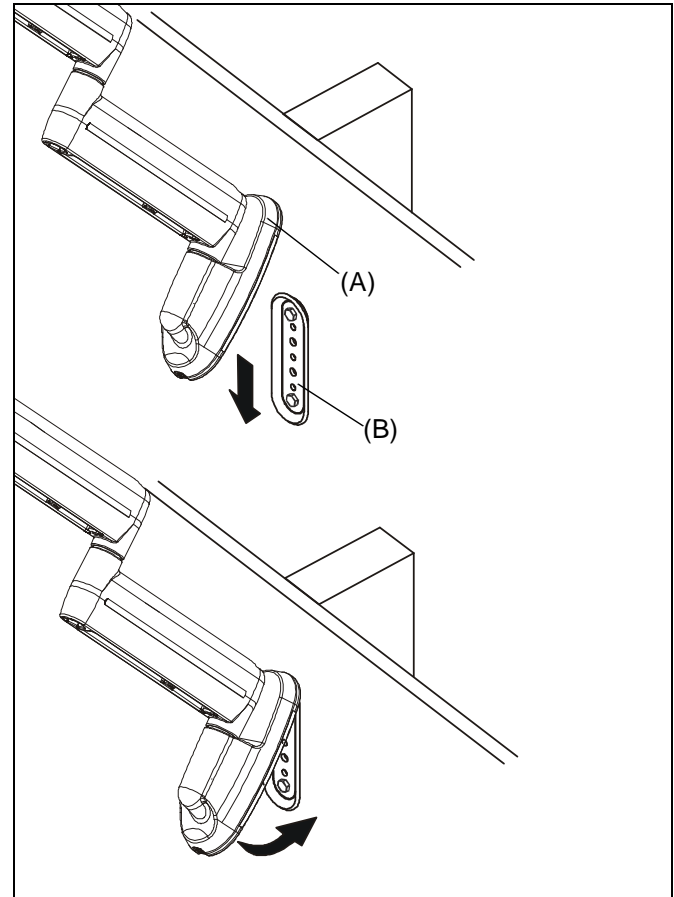

Figure 2
4. Insert top of mount (A) over lip on top of wall plate (B) (See Figure 2). Swing mount (A) down flush against wall.